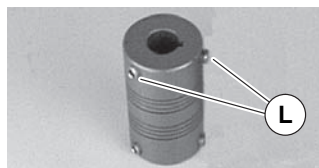

**Figure 8**
- Remove inspection plugs (Figure 8, item K).
- Jog motor and rotate coupling to align set screw (Figure 8, item L) with access hole (M). Tighten to 32 in-lb (3.7 N-m). Repeat for second set screw.